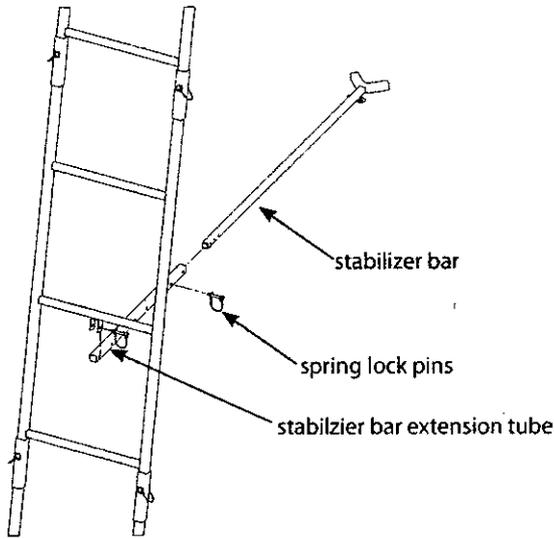

Figure 14
19. a. Attach the stabilizer bar extension tube (1ML23) to the second ladder section mounting bracket using (1) provided spring lock pin. SEE FIGURE 14.
- b. Slide the stabilizer bar (L17) into the extension tube and attach the two pieces together using (1) provided spring lock pin. Spring lock pin must go through both the extension tube and stabilizer bar at appropriate hole to achieve desired distance from tree. Adjustment in length may be needed when ladder is uprighted later in instructions. SEE FIGURE 14.